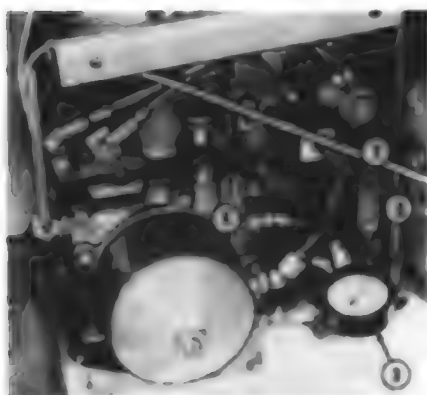

Fig. 160 - View showing gage connection for testing pto pressure. Refer to text.
F. Refer to Fig. 160 and remove pressure line (1) from tee on left side of tractor. Attach a test gage capable of registering at least 300 psi. Engage pto and operate engine at 2200 rpm. If pressure reading is below 220 psi,